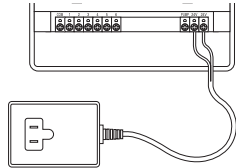

Figure 21: Connecting Transformer
- Plug in transformer [See Figure 21].